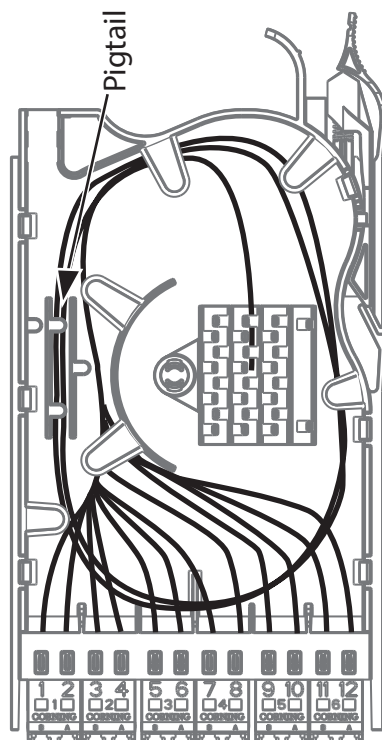

Abb.19 / Fig.19
4.4.4 Route all stripped fibres as shown in Figure 19.